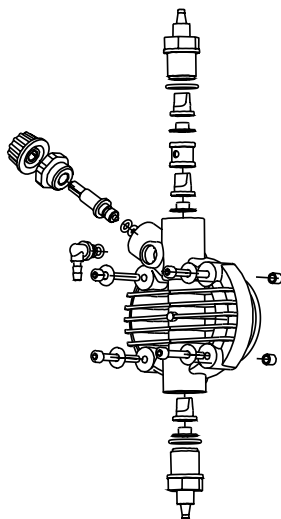

Fig. 10
- the additive concentration in the pipework; a reduction of this concentration could be caused by the wearing of the valves, in which case they need to be replaced (Fig. 10) or by the clogging of the filter which then has to be cleaned as in point 3 here below.
This operation can also be done with the pump disconnected from the plant by turning the pump upside-down for 15 to 30 seconds and without connecting the hose to the nipples; if impossible, dismount and remount the pump head (Fig. 10) using the four mounting screws.
As the system is quite robust there are no apparent mechanical problems. Occasionally there might be a loss of liquid from the nipple because the tube nut has loosened, or more simply the discharge tubing has broken. Very rarely there may be losses caused by the breakage of the membrane, or by the membrane seals in which case they have to be replaced by disassembling the four screws of the pump head (fig. 10), when re-mounting the pump head ensure that the screws are replaced properly, along with “O” ring. After repair, the metering pump will need to be cleaned of additive residues which can damage the pump casing.
❶ THE METERING PUMP GIVES PULSES BUT THE ADDITIVE IS NOT INJECTED
- a. Dismount the suction and discharge valves, clean them and replace, see position (fig. 10). Should the valves be swollen, check valves material against our chemical resistance compatibility chart and fit correct valves. Standard valves are Viton. Upon request ball check valve, can be supplied.